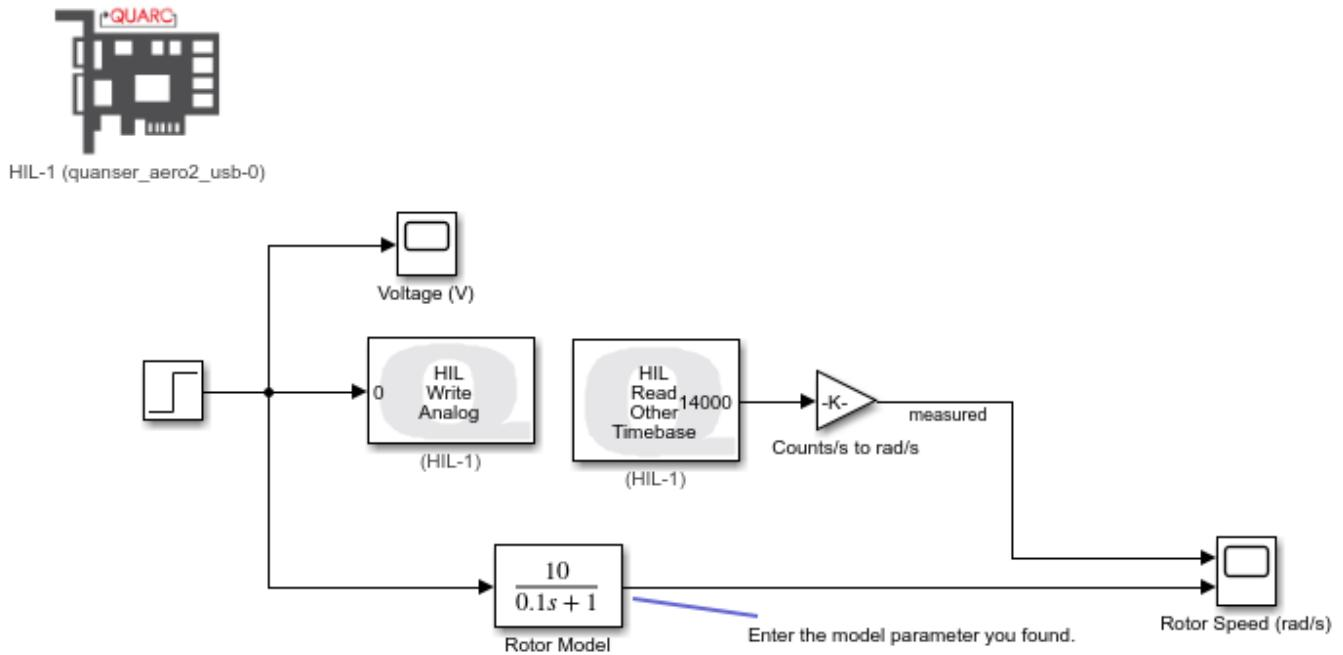
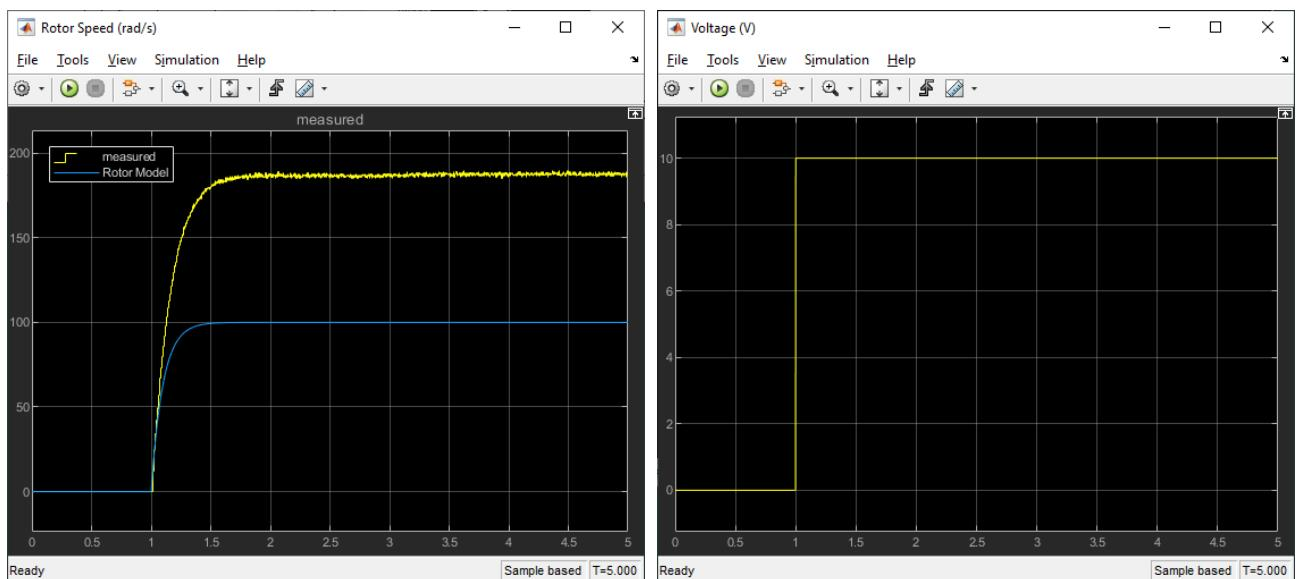

Figure 3 - *q_aero2_rotor_model_val* Simulink model is used to validate the rotor model.
Figure 4 - Sample response from *q_aero2_rotor_model_val* Simulink model.
In this section, the rotor model you found is ran in parallel with the hardware to see how well the model represents the actual system. The *q_aero2_rotor_model_val* Simulink model shown in Figure 3 applies a 10V step to the Aero 2 front rotor, i.e., motor 0, and the transfer function model. The rotor speed measured from the digital tachometer and the simulated rotor speed from the model are displayed in the *Rotor Speed* scope.
3. Enter the transfer function parameters, K and τ , that you found in the *Rotor Model* Transfer Fcn block in the Simulink model, as illustrated in Figure 3.
4. Build and run the *q_aero2_rotor_model_val* Simulink model in QUARC by clicking on the *Monitor & Tune* button in the Simulink Hardware tab. See the sample response shown in Figure 4. Note that this is using the default transfer function $10/(0.1s + 1)$ shown in Figure 3 and is not the correct model of the rotor.